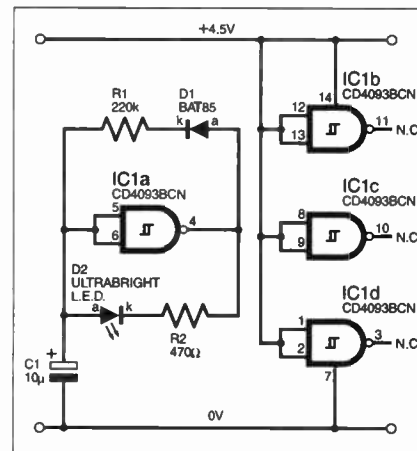

Fig.1. Betty's L.E.D. Flasher circuit diagram.
L.E.D. flashers seldom last for more than one year off AA batteries – the once-popular LM3909 flasher being a well-known example. On the other hand, the l.e.d. flasher shown in circuit diagram Fig.1 will flash an ultrabright l.e.d. brightly for ten years or more off three alkaline AA batteries.